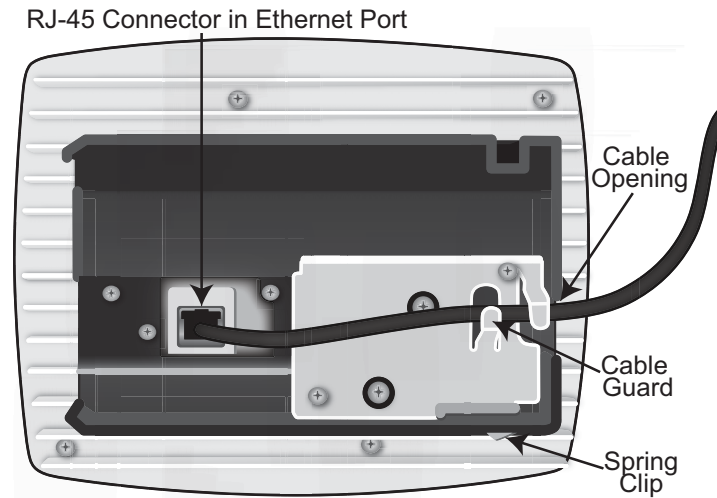

Figure 13 Route and Terminate the Cable
- Step 2** Route the Ethernet cable through the pedestal base cable opening and through the cable guards. Insert the RJ-45 connector into the Ethernet port as shown in Figure 13: